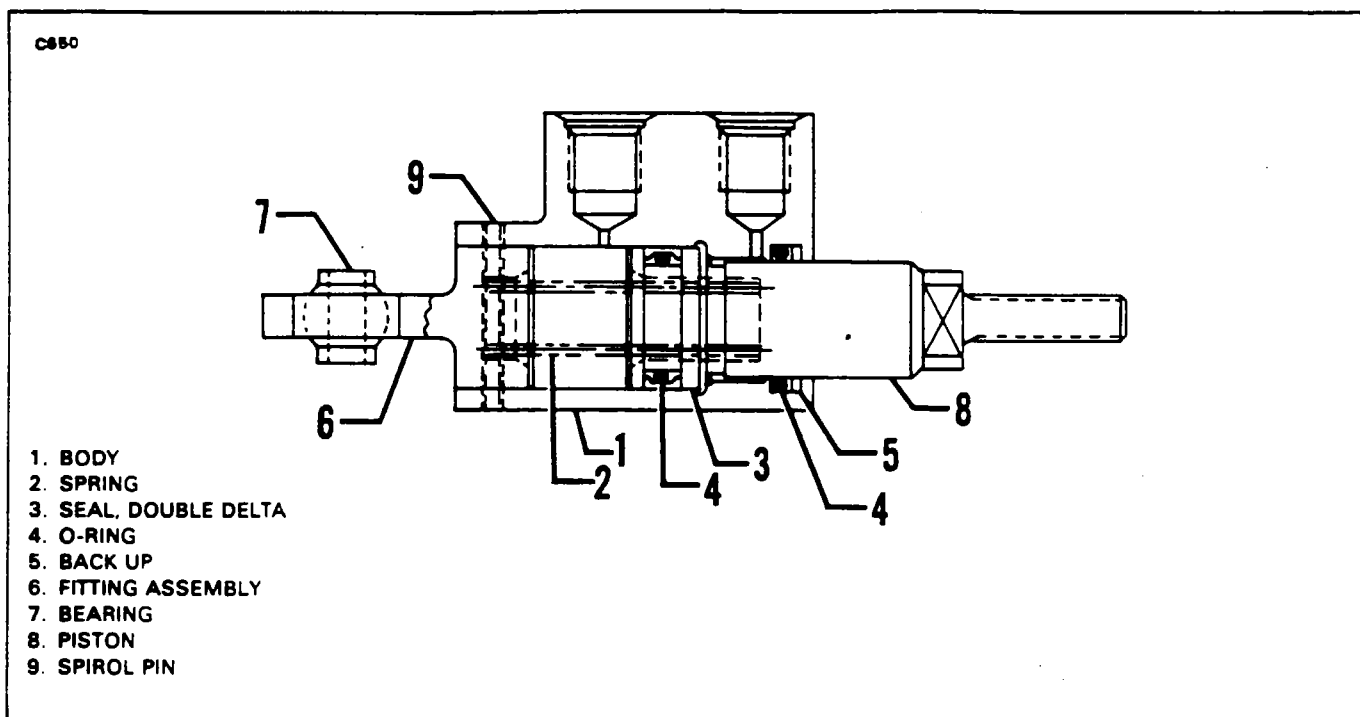

Figure 32-13. Unlock Actuator (Wiebel Tool WTC 2215)
1. Install back up and O-ring into actuator. (Refer to Figure 32-13.)